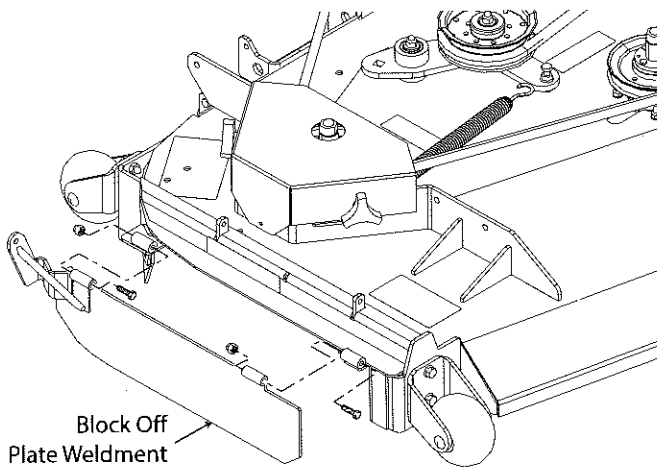

Figure 3-5. Block Off Plate Weldment Installation
16. Install the block off plate weldment to the front and rear hinge brackets using two (2) 5/16-18 x 3-1/2" bolts and two (2) 5/16-18 elastic stop nuts. See Figure 3-5. Do not tighten the bolts completely. Secure the hardware so the block off plate weldment moves freely.